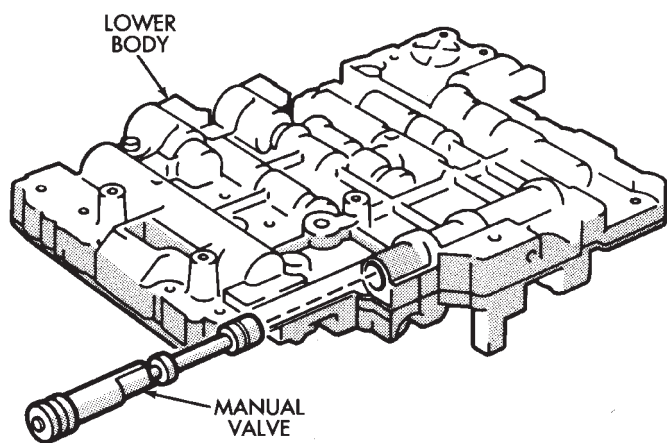

Fig. 4 Installing Manual Valve
(5) Tighten valve body bolts to 6.4 N•m (56 in. lbs.) torque.
(6) Install manual valve (Fig. 4).